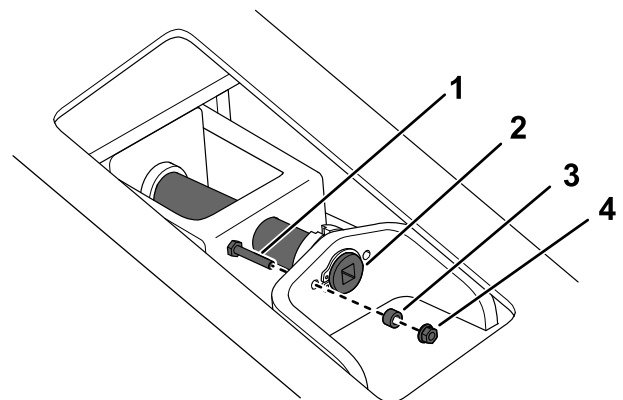
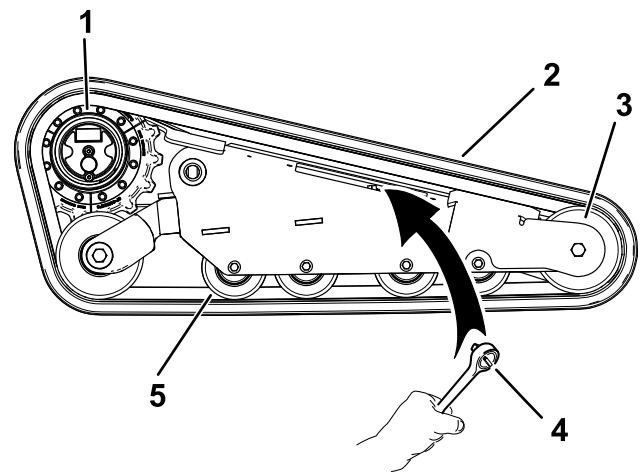

Figure 69
Figure 71
6. Remove the locking bolt, spacer, and nut (Figure 69).
8. Align the notch in the tension screw to the nearest locking-bolt hole and secure the screw with the locking bolt, spacer, and nut (Figure 69).
7. Using a 1/2-inch drive ratchet, release the drive tension by turning the tensioning screw clockwise (Figure 69 and Figure 71).
1. Wrap the new track around the front wheel (Figure 71).
2. Push the track under and between the road wheels and wrap it around the frame (Figure 71).